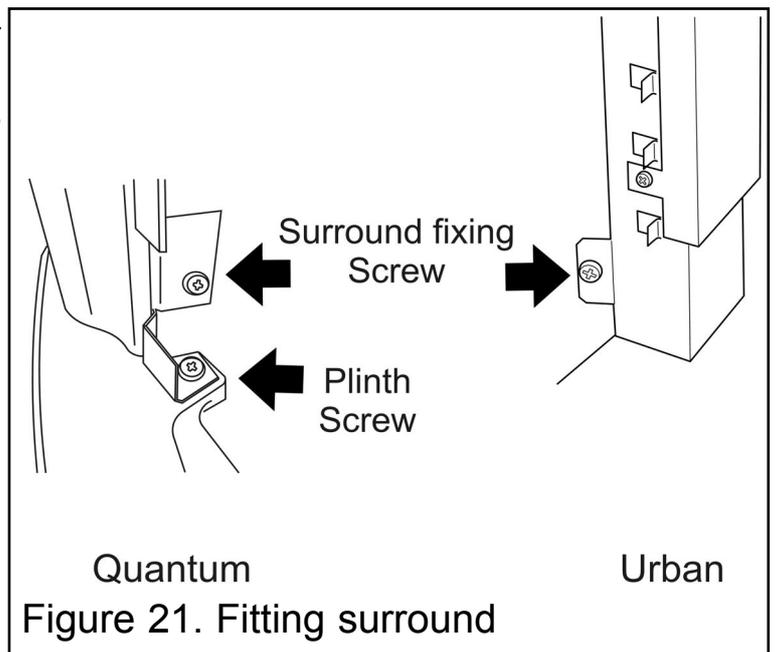
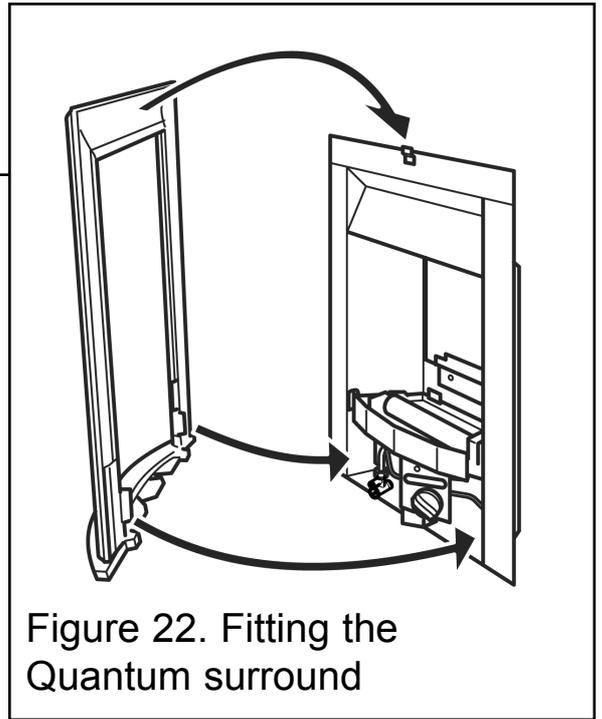
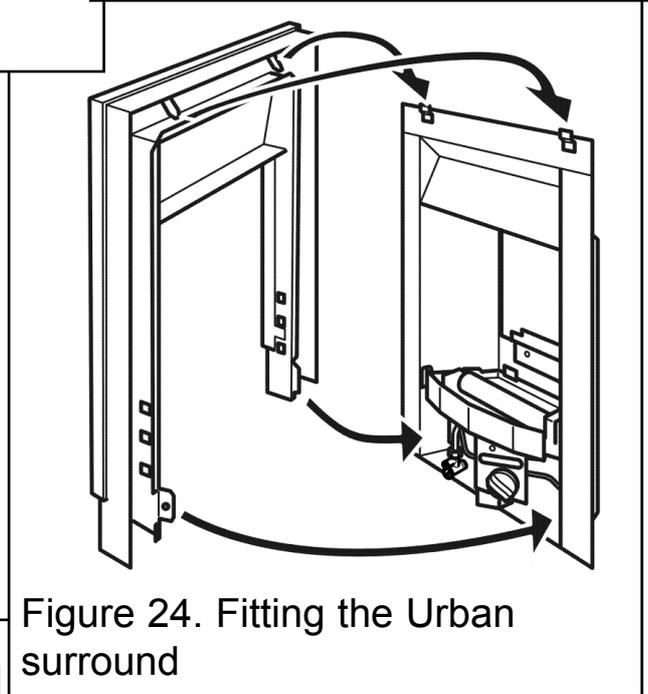

Figure 21. Fitting surround
Figure 22. Fitting the Quantum surround
Figure 24. Fitting the Urban surround
1. Place the surround on top of the plinth. Be careful not to drag the surround across the top surface of the plinth as this will scratch the plinth. Secure the surround to the plinth using the two screws supplied (See Figure 21).
2. Fit the surround to the appliance by locating the top to the upper hanging bracket (Figure 22), then attaching it to the body of the appliance using the two screws supplied (Figure 21)
1. Fit the surround to the appliance by locating the top to the upper hanging brackets (Figure 24), then attaching it to the body of the appliance using the two screws supplied (Figure 21)